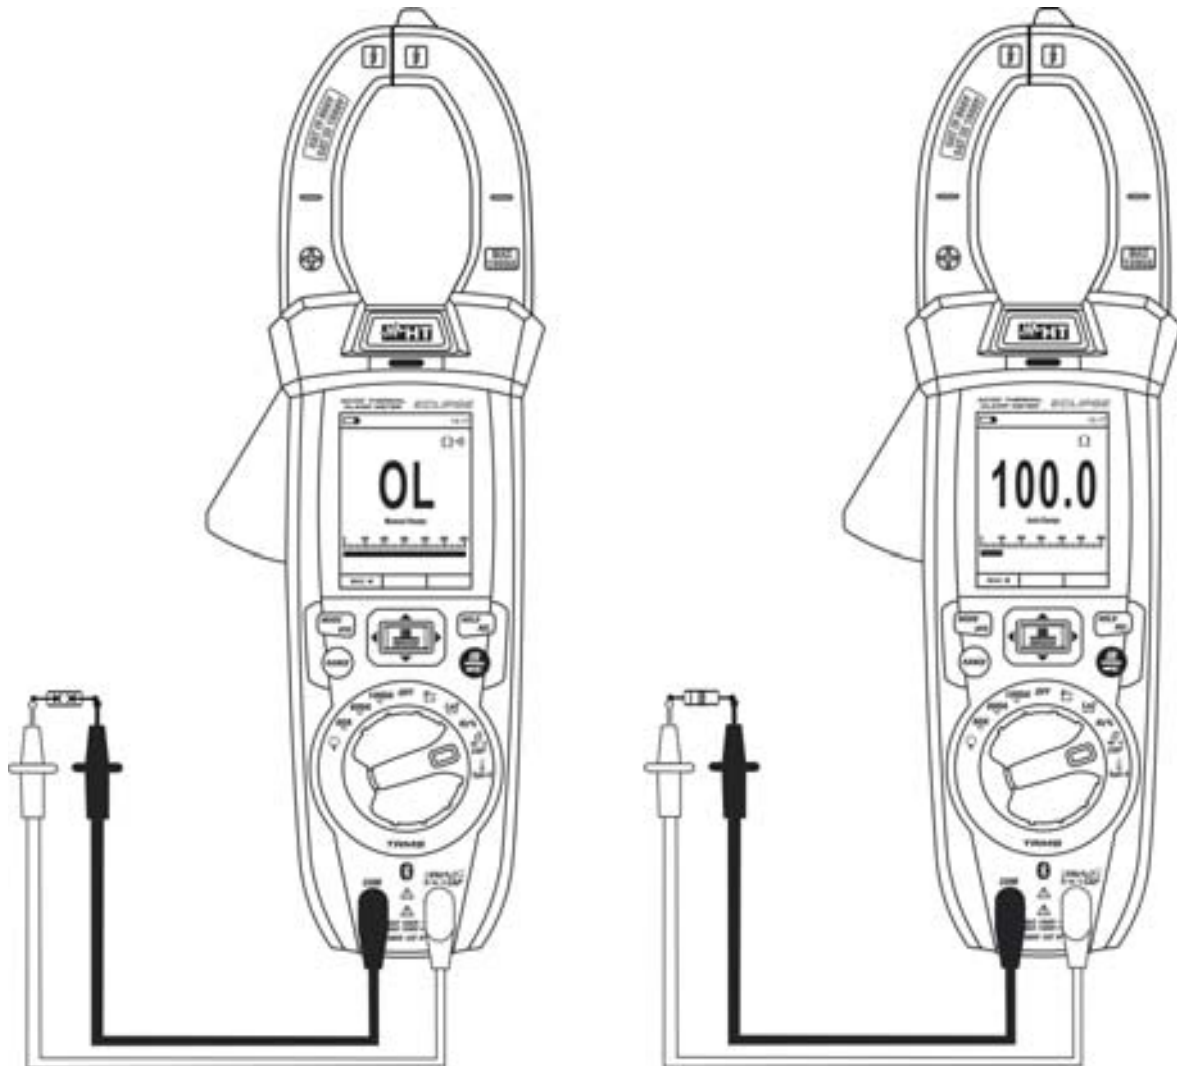

Fig. 27: Use of the instrument for resistance measurement and continuity test
3. Position the test leads in the desired spots of the circuit to be measured (see Fig. 27). The display shows the value of resistance.